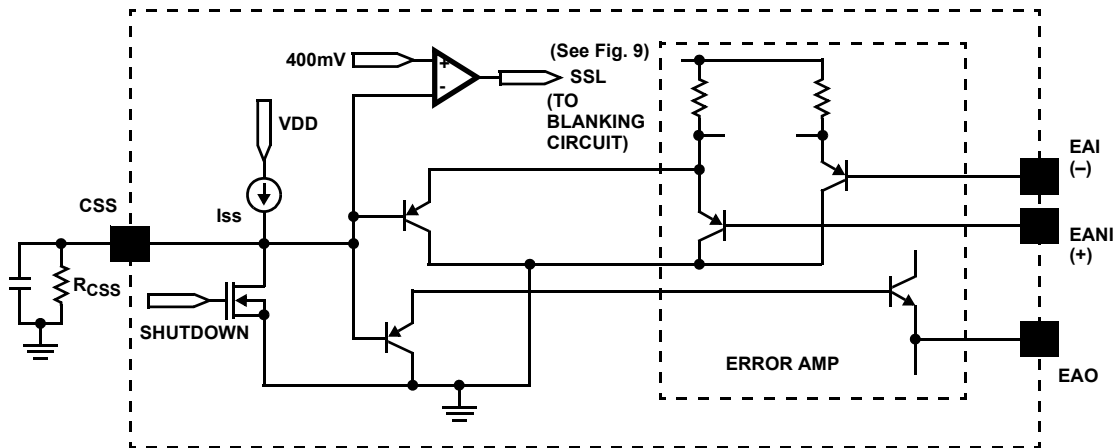

FIGURE 4. SIMPLIFIED CLAMP/SOFT-START
- Both EANI and EAO are clamped by the voltage (Vclamp) set at the CSS pin, as shown in Figure 4. Note that the diodes in the functional block diagram represent the clamp function of the CSS in a simplified way.
- The clamping voltage determines the cycle-by-cycle peak current limiting of the power supply. It should be set above the EANI and EAO voltages and can be programmed by an external resistor as shown in Figure 4 using Equation 3.
incorporated. The current ramp is blanked out during the resonant delay period because no switching occurs in the lower FETs. The leading edge blanking function will not be activated until the soft-start (CSS) reaches over 400mV, as illustrated in Figures 4 and 9. The leading edge blanking (LEB) function can be disabled by tying the R_LEB pin to VDD, i.e., LEB=1. Never leave the pin floating.